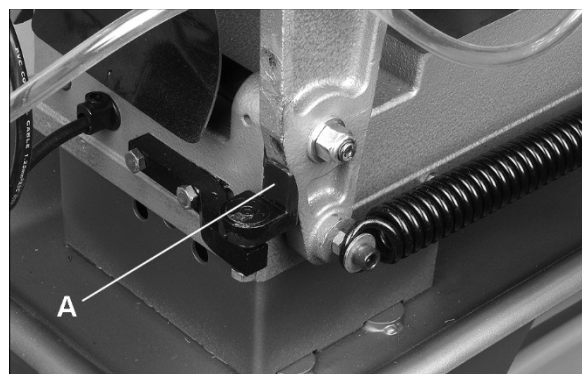

Figure 8-1: Disengaging Stop Bracket
2. Rotate stop bracket (A, Figure 8-1) and hold it out of the way, while lifting bow to upright position. **Pinch point – use caution!**